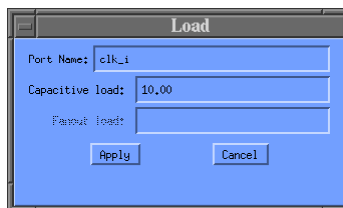

Fig. 6: Specifying capacitive load
2. Select Attributes \Rightarrow Operating Environment \Rightarrow Load (see Fig. 6)